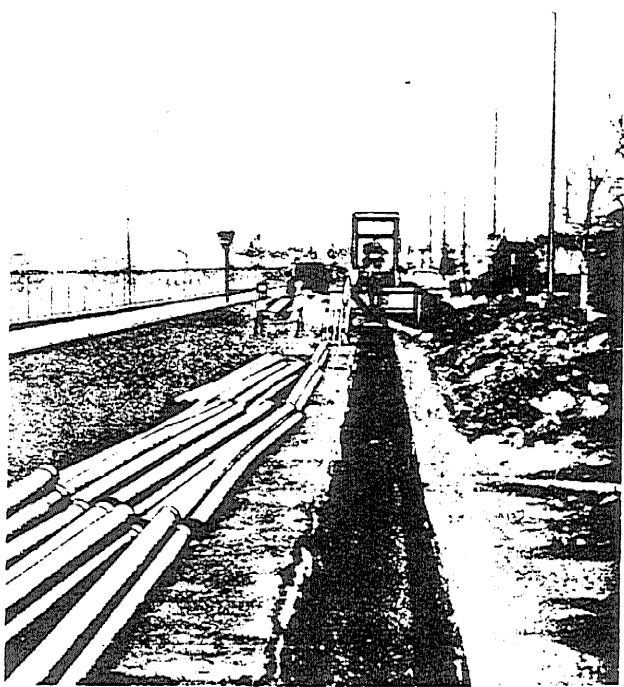

Fig. 1 —Conduit Along Trench Site
3.01 If practical, distribute the conduit along the route of the trench, as shown in Fig. 1. Where conduit cannot be distributed along the trench, route delivery and storage procedures should be determined locally.